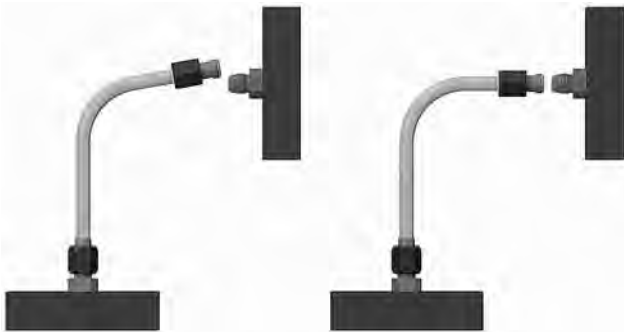

Fig. S31 – Improper bend and short tube
**Note:** Do not force an improperly bent tube into alignment (Fig. S31) or draw-in too short a tube using the nut. It puts undesirable strain on the joint leading, eventually, to leakage.